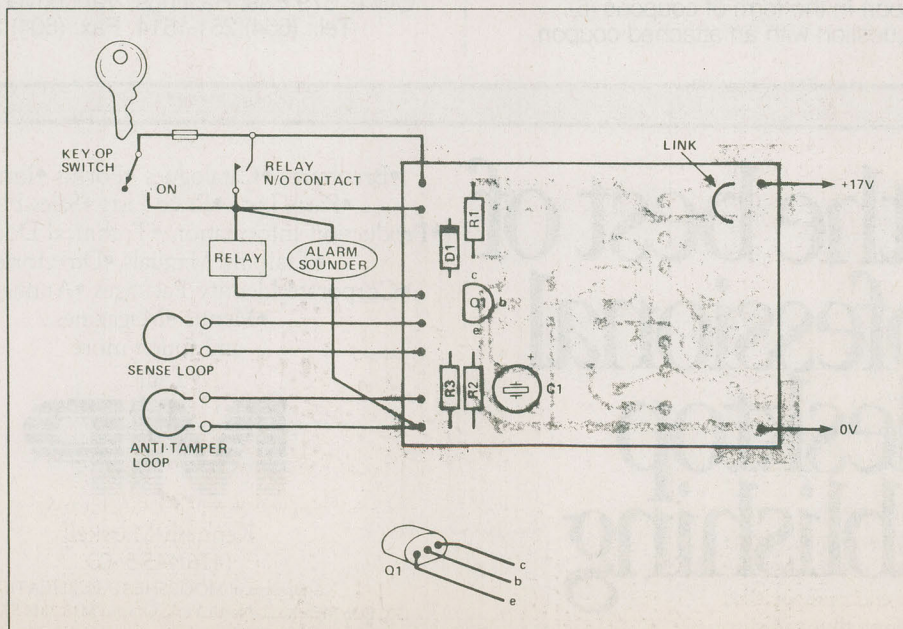

Fig. 1 Component overlay for the free Burglar Buster PCB.
**H**ere's a burglar alarm that can use keyswitches, the usual continuity loop, and an anti-tamper loop. Figure 1 shows the component overlay for the project and Fig. 2a shows the circuit.